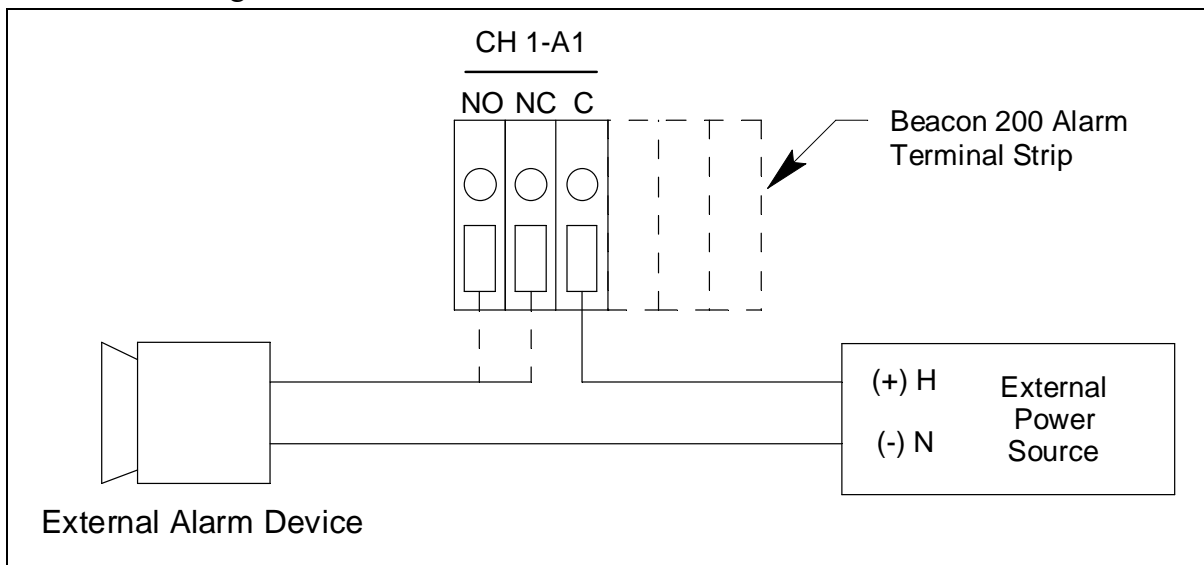

Figure 10. Typical External Alarm Wiring, Single Device
4. Connect the leads from the external alarm device and power to the alarm terminals as shown in Figure 10.